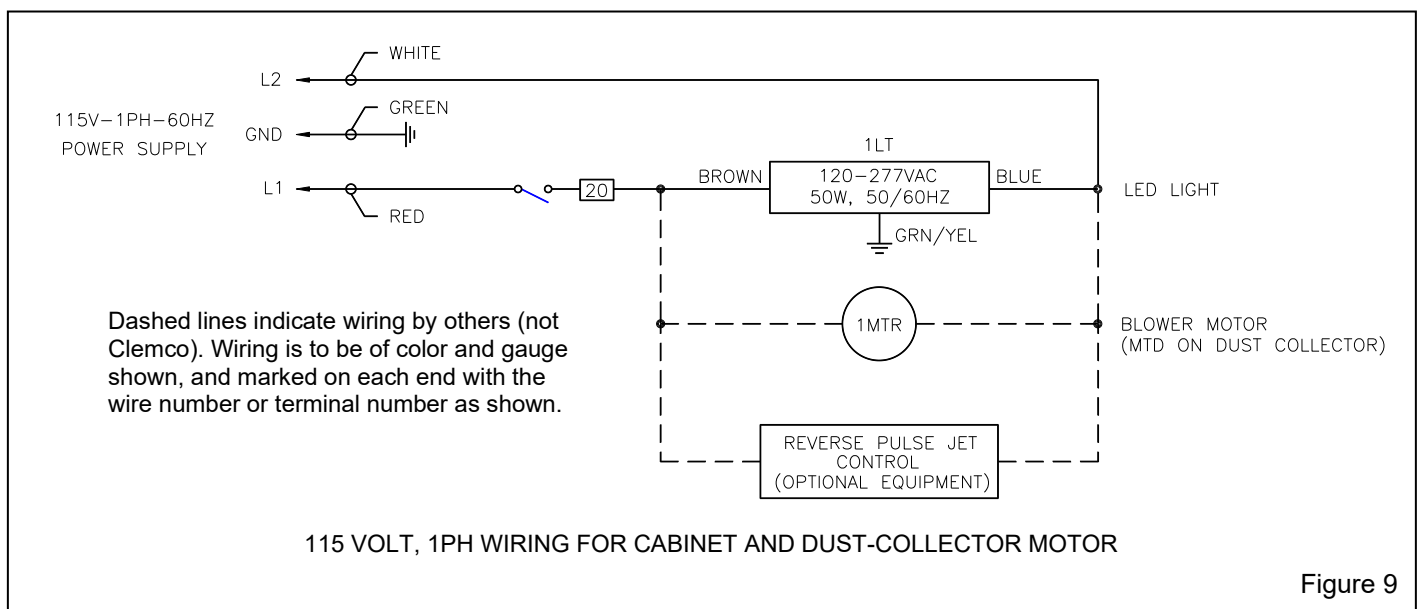

Figure 9
2.11.1 Single-phase wiring – Figure 9
2.11.1.2 Refer to the wiring schematic in Figure 9 and wire the dust-collector motor per instruction on the motor data-plate, to the junction box 10; the dust-collector exhaustor motor will start when the cabinet light switch is turned ON, and stop when the switch is turned OFF.